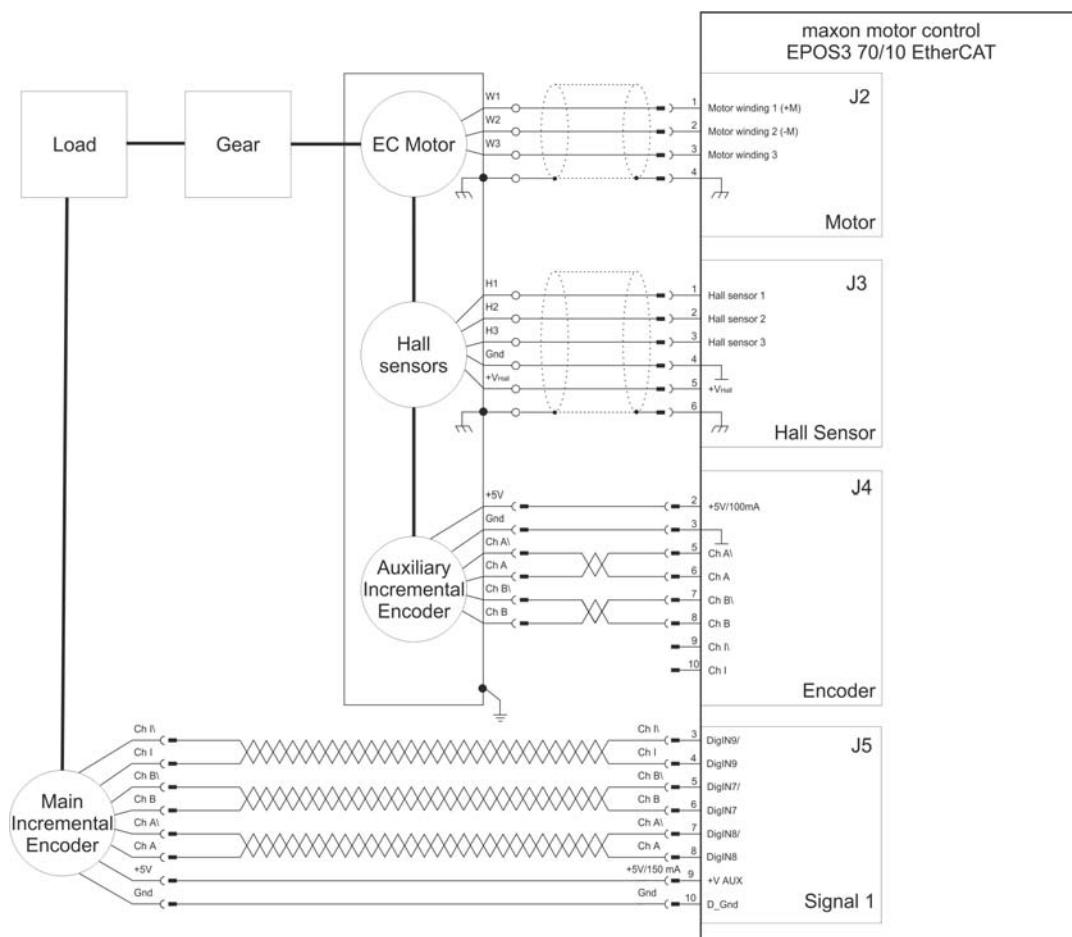

Figure 9-98 Example 2 – Wiring Diagram
- 1) Wire the system according to the wiring diagram (→Figure 9-98).